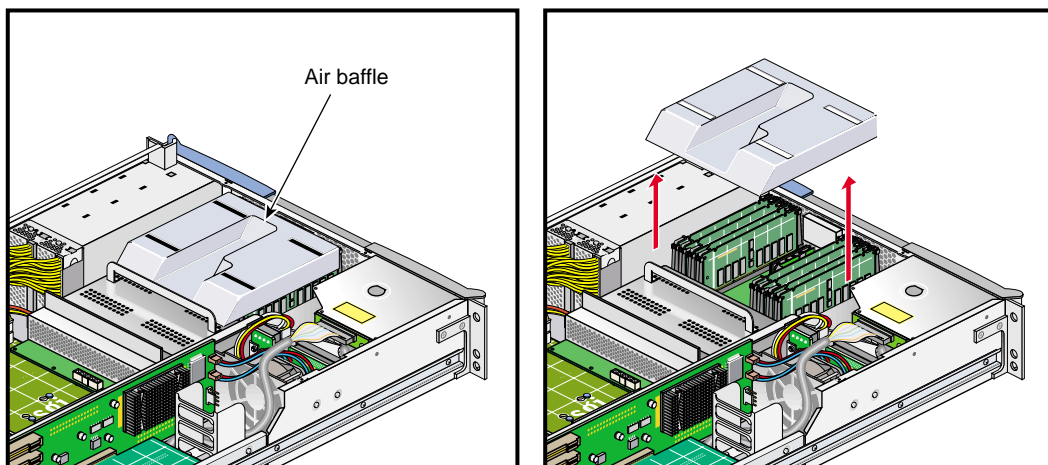

Figure 6-29 Removing the Plastic Air Baffle
6. Remove the plastic air baffle covering the DIMMs, as shown in Figure 6-29.